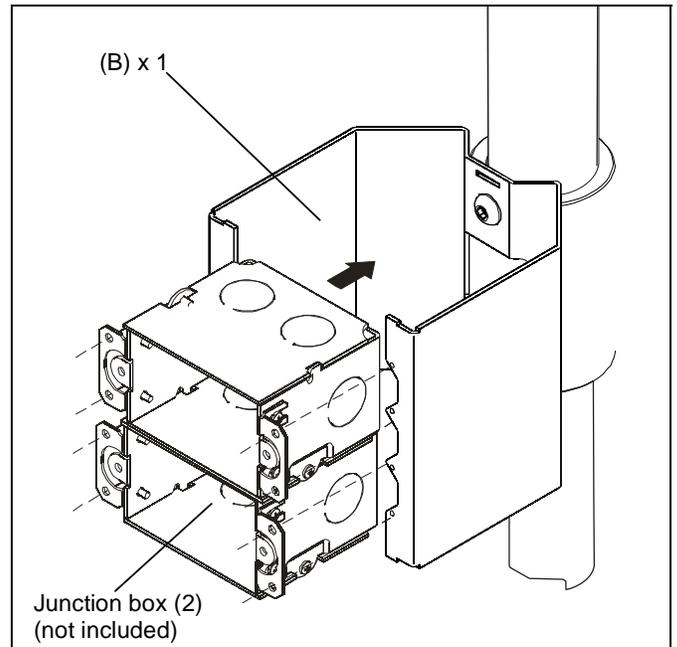

Figure 3
3. Orient each junction box as shown and remove knockout from back side. (See Figure 3)
4. Slide each junction box (not included) into mounting plate (B). (See Figure 3)